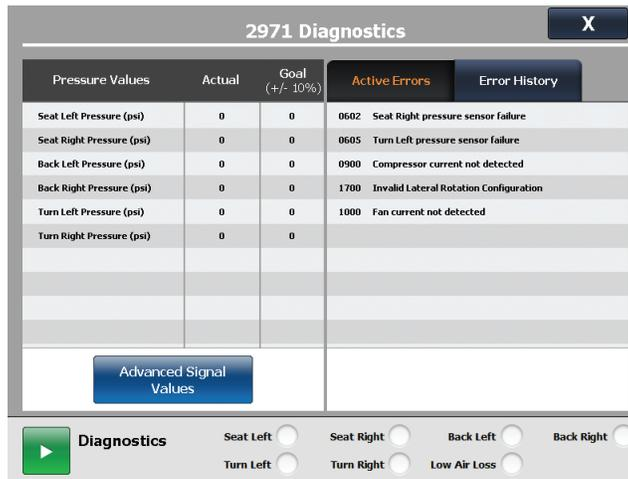

Figure 39 – Diagnostics main screen sample
5. If you have entered into the diagnostics menu and need to exit, tap **X** (Figure 39).